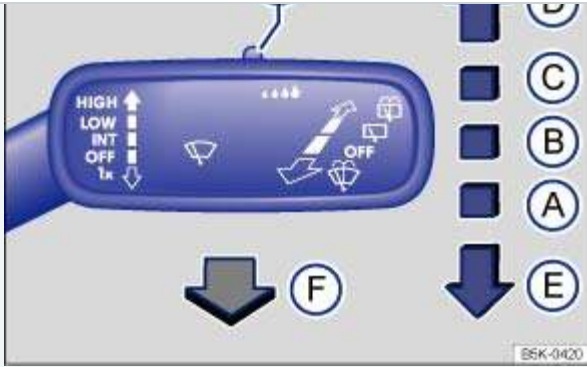

Fig. 90 Operating the front windshield wipers.
- Press the windshield wiper lever down briefly ⇒ Fig. 90Ⓜ when the ignition is off.
Carefully fold the wiper arms back onto the windshield before driving! Switch the ignition on and press the windshield wiper lever down briefly ⇒ Fig. 90Ⓜ. The wiper arms move back to their original position.